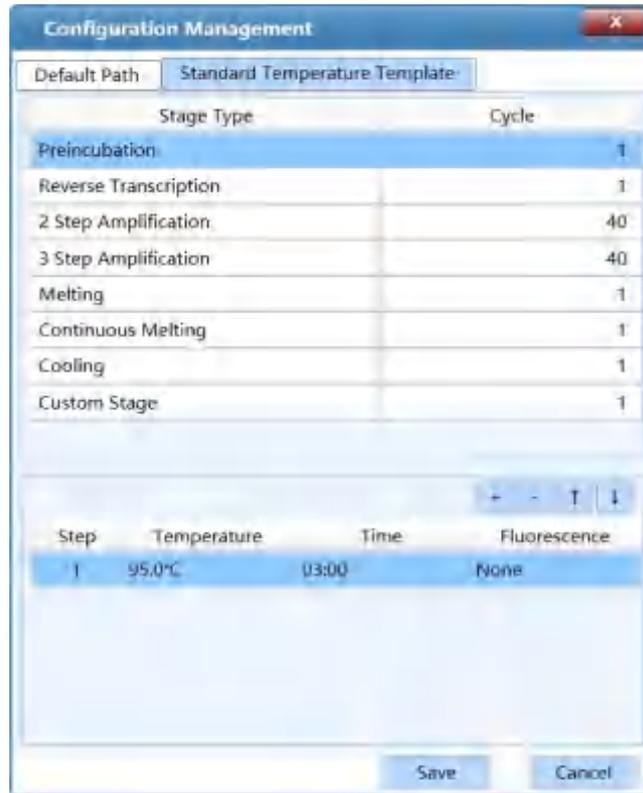

Figure D-2.7b Configuration Management interface - Standard Temperature Template tab
- ▶ **Standard Temperature Template** tab: 7 predefined standard temperature templates are displayed in this tab, as shown in figure D-2.7b. These templates are provided by the